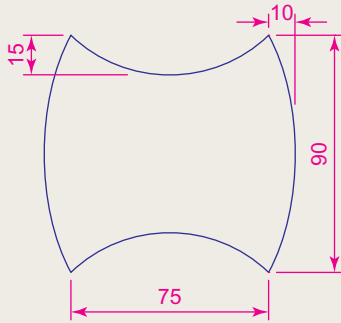
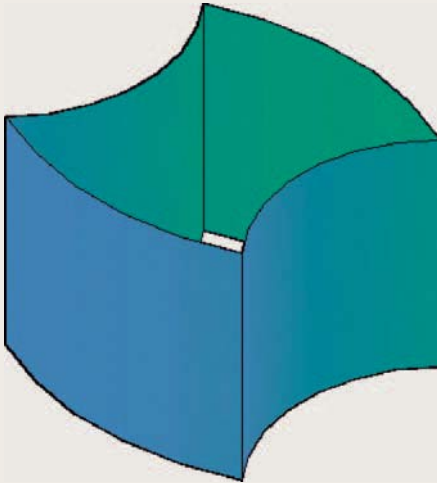

Fig. 14.48 Exercise 5 – outline to be extruded
Fig. 14.49 Exercise 5
5. In the **Top** view on a layer colour **blue** construct the four polylines Fig. 14.48. Call the **Extrude** tool and extrude the polylines to a height of **80** and place in the isometric view. Then call **Visual Styles/Conceptual** shading (Fig. 14.49).